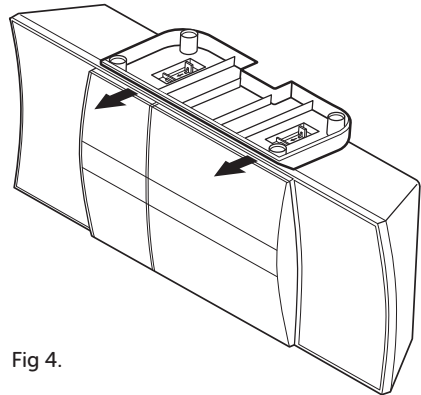

Fig 4.
4. When seated push the stand towards you to lock the stand in place. **(Fig 4)**